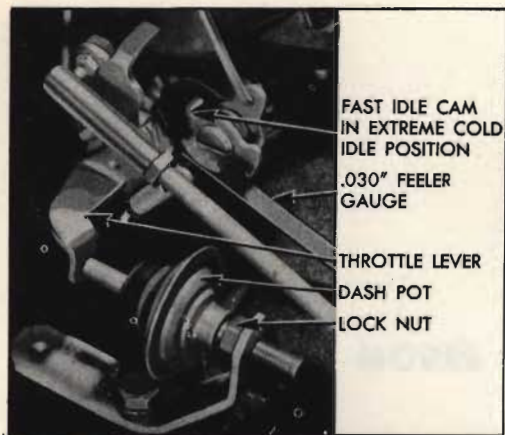

Fig. 7. Dashpot adjustment
1. Hold the choke valve *closed*. Insert a .030 feeler blade between the stop screw and the highest step of the fast idle cam (Fig. 7).